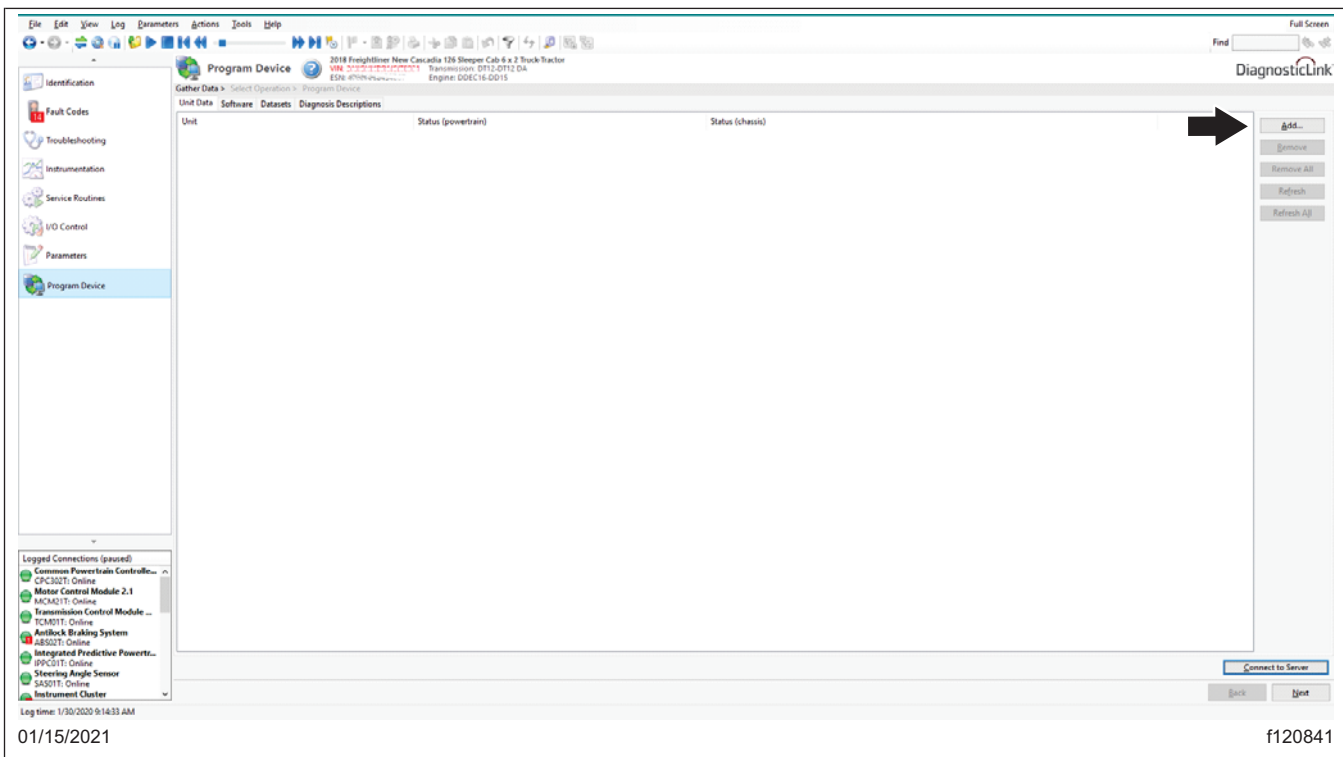

Fig. 5, Adding the VIN to Download Updated Server Data
- Select 'Add' to add a download request for the vehicle by entering the vehicle identification number (VIN). See Fig. 5.